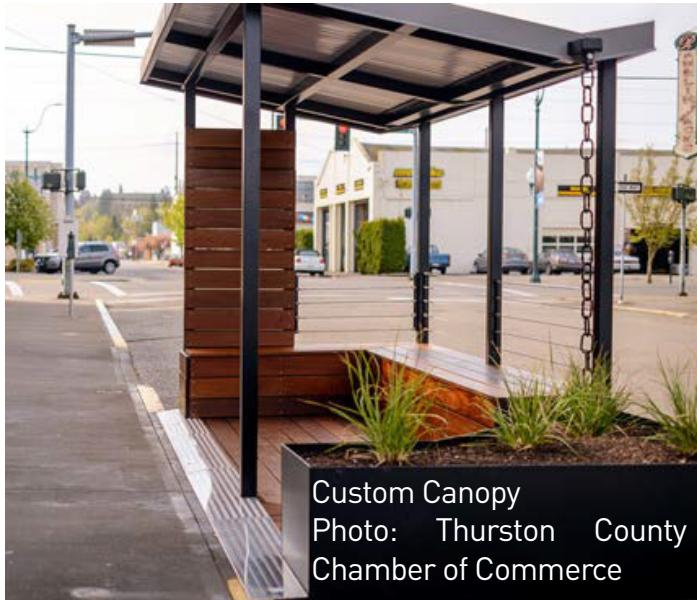
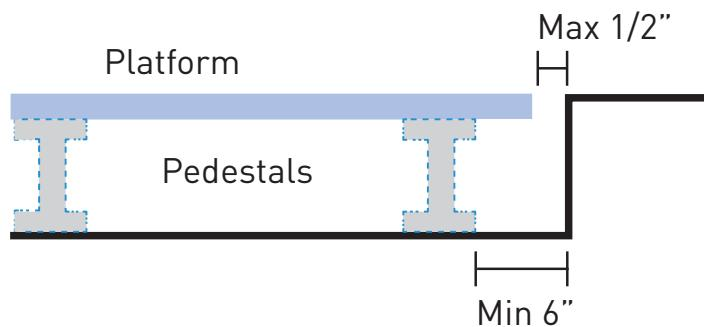

Figure 4: Drainage and Deck Gap
Figure 5: Vertical Drainage Gap
- Platforms shall not block rainwater drainage getting to the curb or flowing along the curb. To satisfy this requirement, a pedestal support system (see Figure 4) must be used for the platform frame so that rainwater can pass underneath the entire width of the structure. There must also be a minimum 6-inch horizontal gap between the curb and the base of the frame and a minimum 2-inch vertical gap (see Figure 5) between the street surface and the bottom of the platform decking.